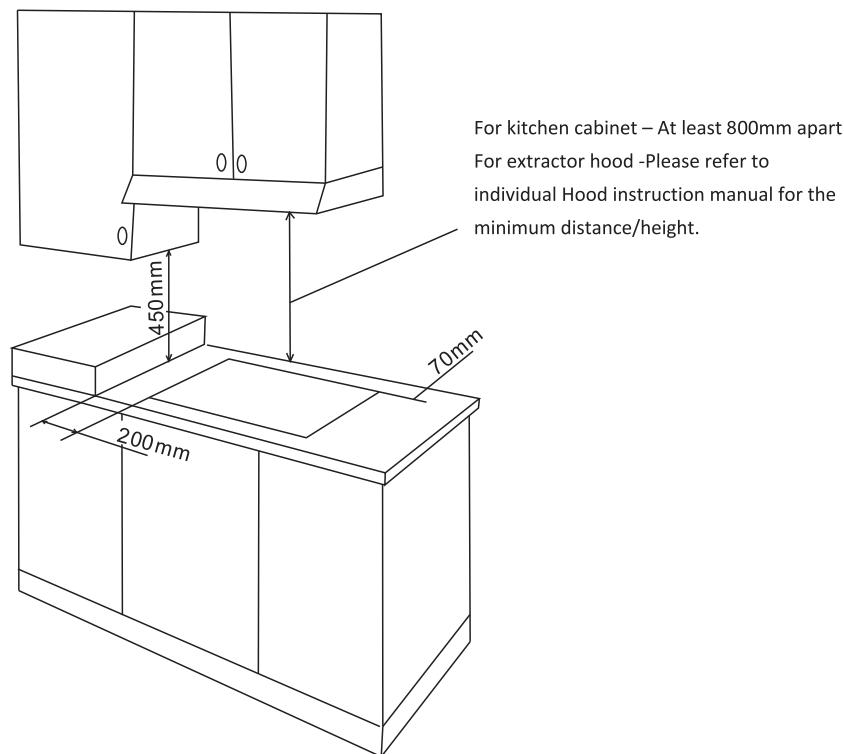

Fig.10
- The hob must be installed at least 70mm away from the rear wall (Fig.10).
- There must be a distance of st least 800 mm between the hob and any wall cup board or extractor hood positioned immediately above (Fig.10).